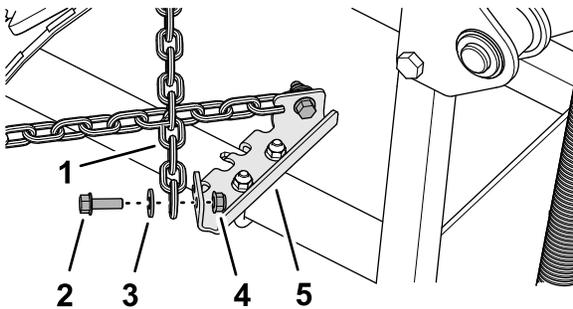

Figure 14
- Cross the attached chains from the (Figure 14) over the drawbar.
- Assemble the chain to the stop bracket with a flange-head bolt (5/16 x 1 inch), washer (3/8 x 7/8 inch), and flange locknut (5/16 inch) as shown in Figure 14.